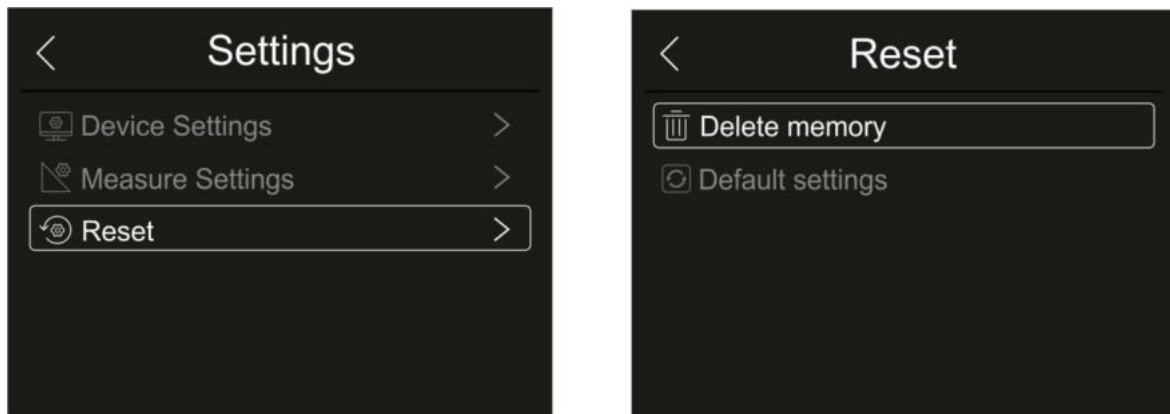

Fig. 28: Instrument reset menu
1. Touch the item “Reset”. The screen in Fig. 28 – right side appears on the display. Touch the item “Delete memory”. The following confirmation screen is displayed: